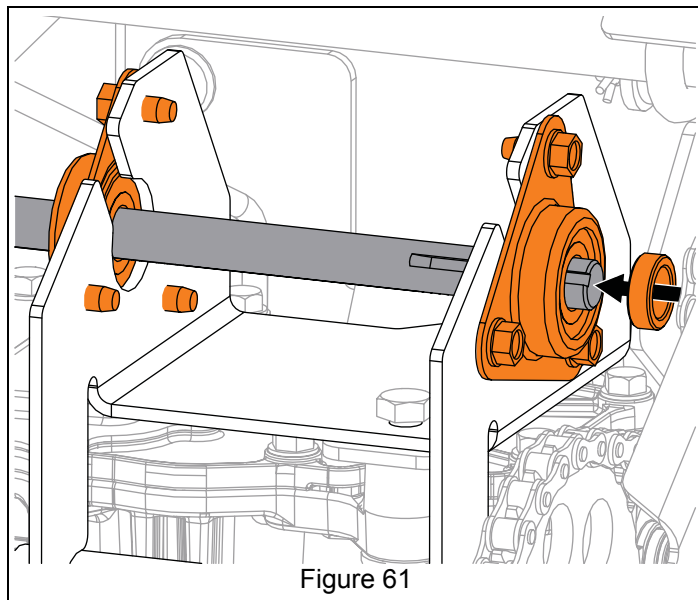

Figure 61
4. Install sleeve bushing onto right side of pinion shaft. See Figure 61.